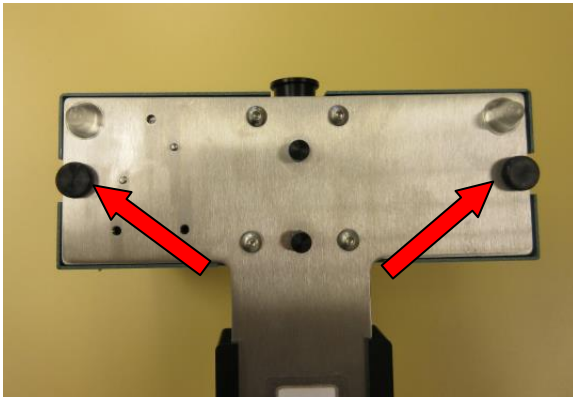

Figure 5.1.1 Cover screws
- Ensure air and power supply has been disconnected from the unit prior to removing the cover. Remove the two thumb screws securing the cover to the base plate. Lift cover out of the way. *See Figure 5.1.1*